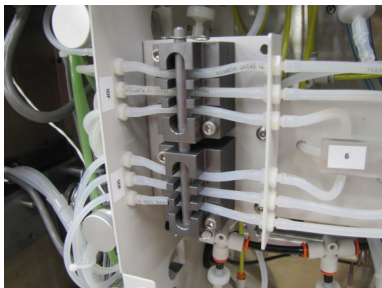

Figure 1
1. From the back of the TDF instrument or when tilting the instrument forward identify the left and right IDF/SDF pinch valves, Waste Pinch Valves and the Enzyme Pinch Valve, shown in Figures 1 - 4. **Ensure you have a TDF71 Pinch Valve Tubing Set which contains the 21 individual tubes pre-cut for this task.**